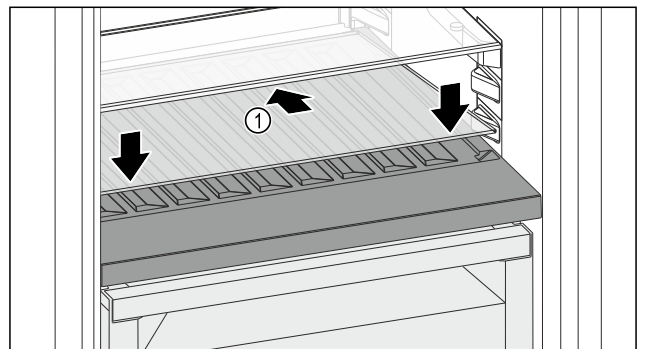

Fig. 118
- Place the glass shelf Fig. 118 (1) at an angle, sloping it downwards and backwards.
- Lower the glass shelf Fig. 118 (1) at the front.